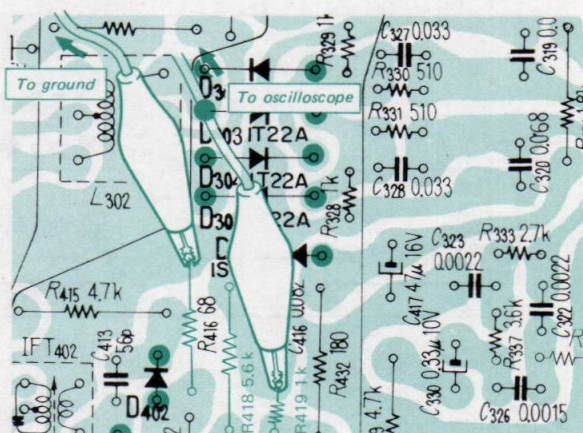

Fig. 3-14. A-m detector output connection
2. Connect the input cable of the oscilloscope with alligator clips to the connection point of R418 and R419 and ground on the tuner and MPX board as shown in Fig. 3-14.